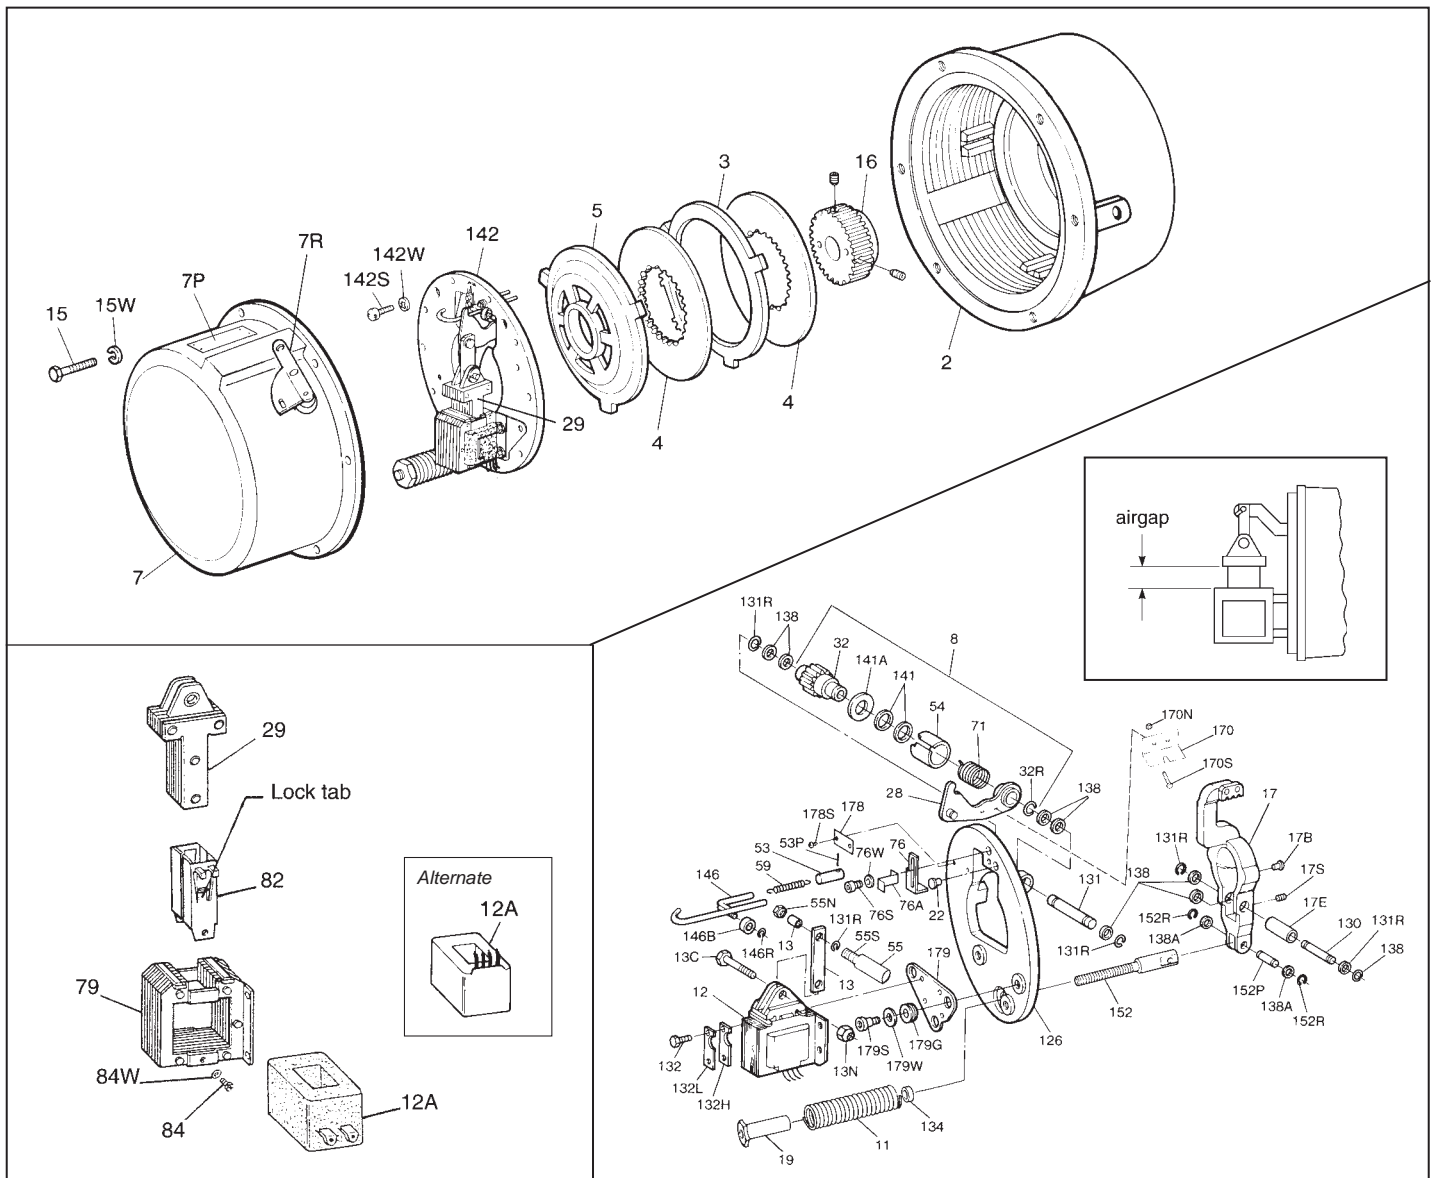

Figure 1
I. Installation Procedure (See Figure 1)
- Unscrew manual release knob (148), housing screws (15) and washers (15W) and remove housing.
- Remove solenoid link screw (13C) and lift plunger (29) from frame (79).
- For metallic plunger guides (82) remove plunger guide screws (84) and lock washers (84W). Remove both plunger guides (82) by prying up on the flanges. Discard plunger guides.
- To remove non-metallic plunger guides (82) remove screws (84) and lock washers (84W). Insert shim stock or other thin gauge material at top center of coil between coil and solenoid frame. Push to release lock tab while lifting up on plunger guide. Repeat for other plunger guide.
- Slide coil (12A) out from solenoid frame (79) in the direction of the coil leads or terminals. If necessary, tap coil lightly with a soft hammer. If solenoid coil had burned out, be sure to remove all foreign material from the solenoid plunger (29) and solenoid frame.
- Install new coil (12A) into solenoid frame with same relative position as old coil. Install coil, alternate (12A), with lead wires upward on outboard side of solenoid. If solenoid actuated switch or DC coil is used, install coil with lead wires upward toward inboard side of solenoid. Assemble new metallic plunger guides (82), plunger guide screws (84) and lock washers (84W) if used. See Figure 1.
- Assemble new non-metallic plunger guides (82) by inserting into position and pushing down until lock tab snaps under top bar of solenoid frame. On coil (12A) with terminals, check that lock tab face is flush with inside surface of guide. If not, file chamfer [about 1/16" (1.5 mm) by 45°] on coil at lock tab area. Install plunger guide screws (84) and lock washers (84W) if used.